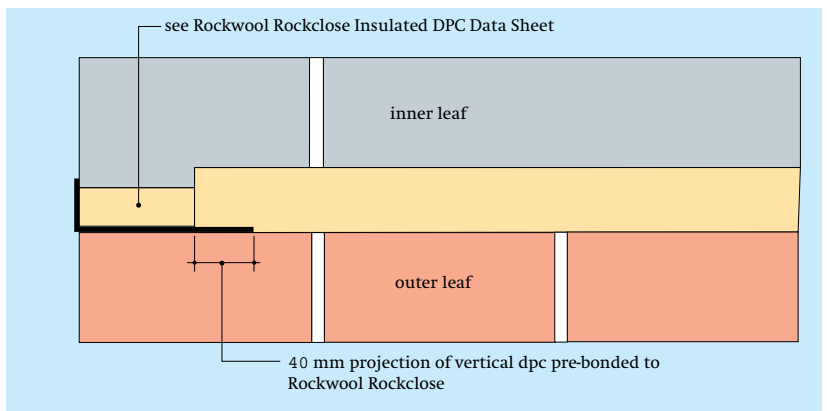

Figure 4 Vertical DPCs
- 7 Vertical DPCs at wall openings should project at least 25 mm into the cavity (Figure 4). See Rockwool Rockclose Data sheet for details of the Rockclose insulated cavity closer.